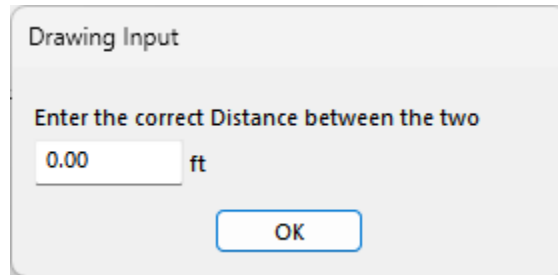

FIGURE 3-4
- The *Drawing Input* dialog will open as shown in **FIGURE 3-4**.